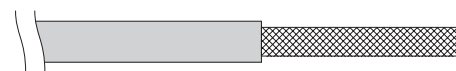

Fig. 2-8
- (1) Remove cable coat not to scratch braided shield. (Fig. 2-8)